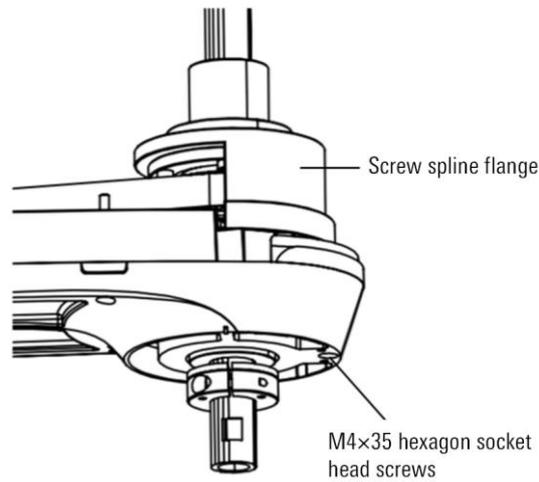
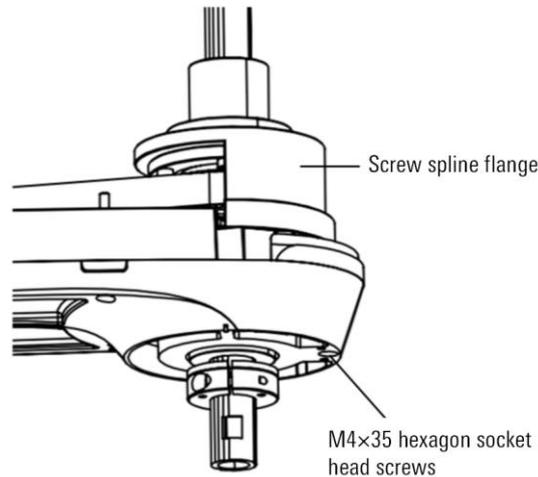

Figure 8-9 Diagram of disassembling screw spline flange
Figure 8-15 Diagram of disassembling screw spline flange
Step6. Use an Allen wrench to remove the 7 M4x35 hexagon socket head screws for mounting the screw spline flange from the lower end of the forearm, and move the screw spline flange upward, as shown in Figure 8-9.
Step5. Use an Allen wrench to remove the five M3x35 hexagon socket head screws for installing the screw spline flange from the lower end of the forearm, move the screw spline flange upward, and remove the fixed screw spline method from the lower end of the forearm. The five M3 screws used for the flange are shown in Figure 8-9, and the screw spline flange is removed upward, as shown in Figure 8-15.